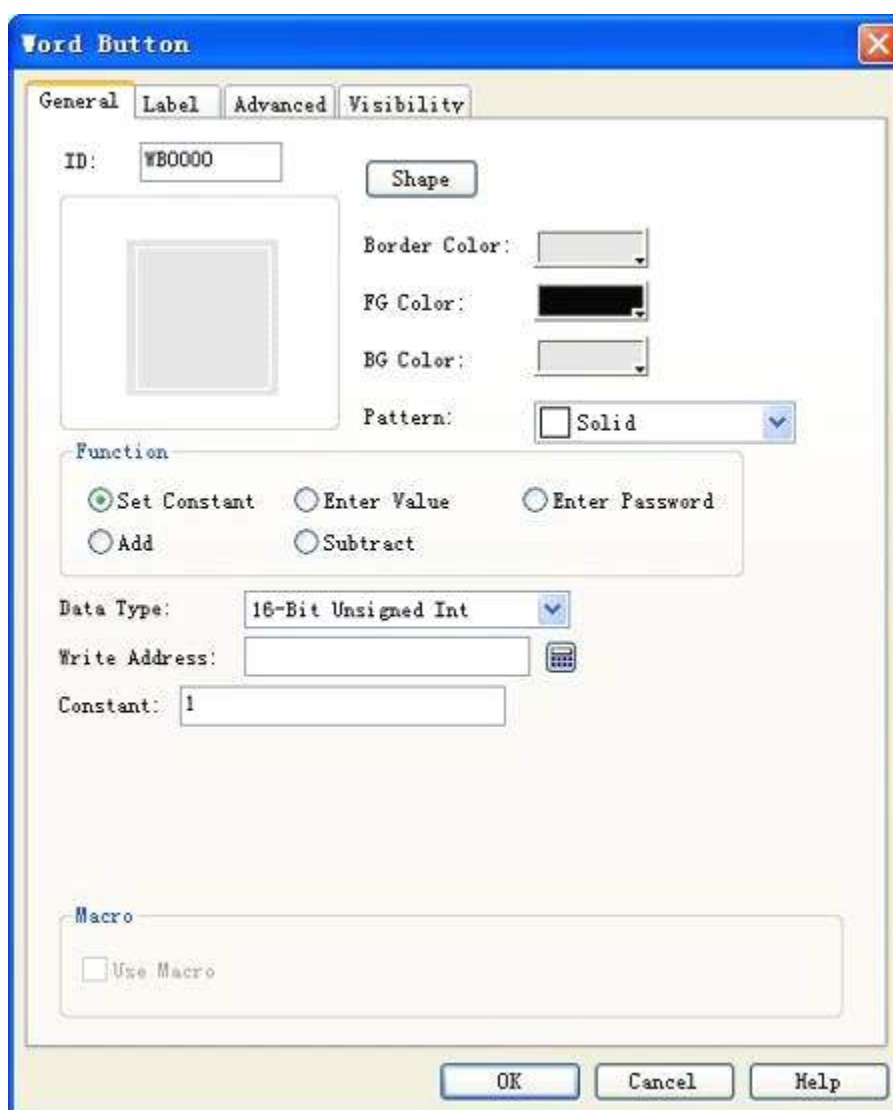

Figure 4-59: Word Button dialog
- Choose Word Button icon  in the tool bar, and then a dialog as shown in Figure 4-59 will pop up.